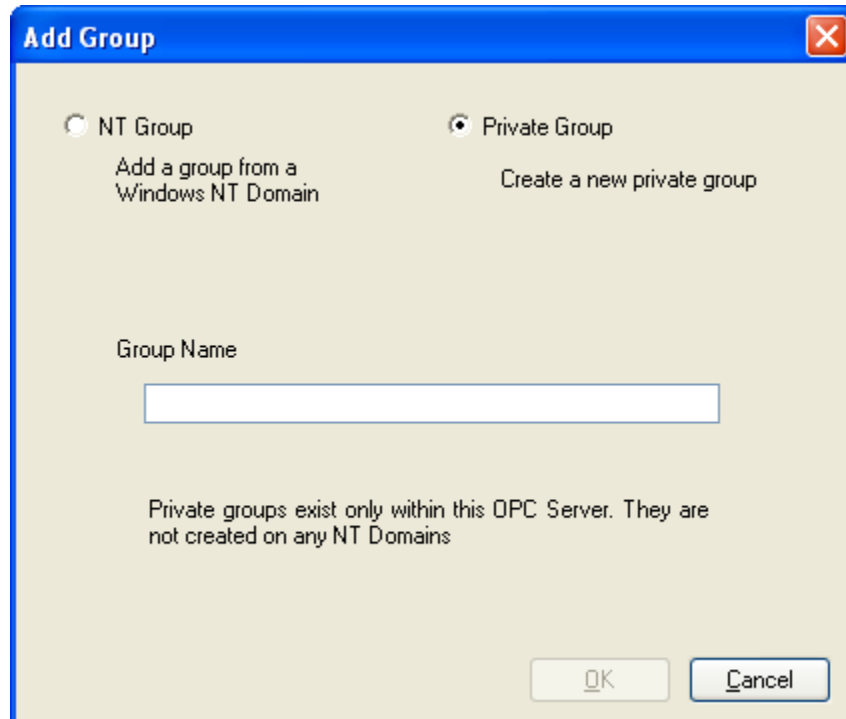

Figure 63 - Add Group Window (Private)
- Select the **Private Group** option button (Figure 63).